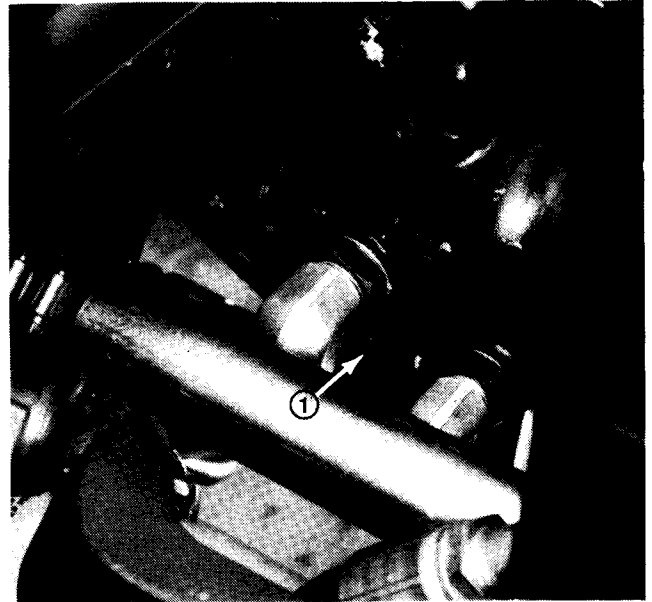

Figure 5
1. The by-pass valve is located on the left side of the variable displacement pump (Fig. 5). With the engine off, rotate the valve 1/2 to 1 turn counterclockwise to open and allow oil to by-pass internally. Because fluid is by-passed, the machine can be moved - slowly - without damaging the transmission.